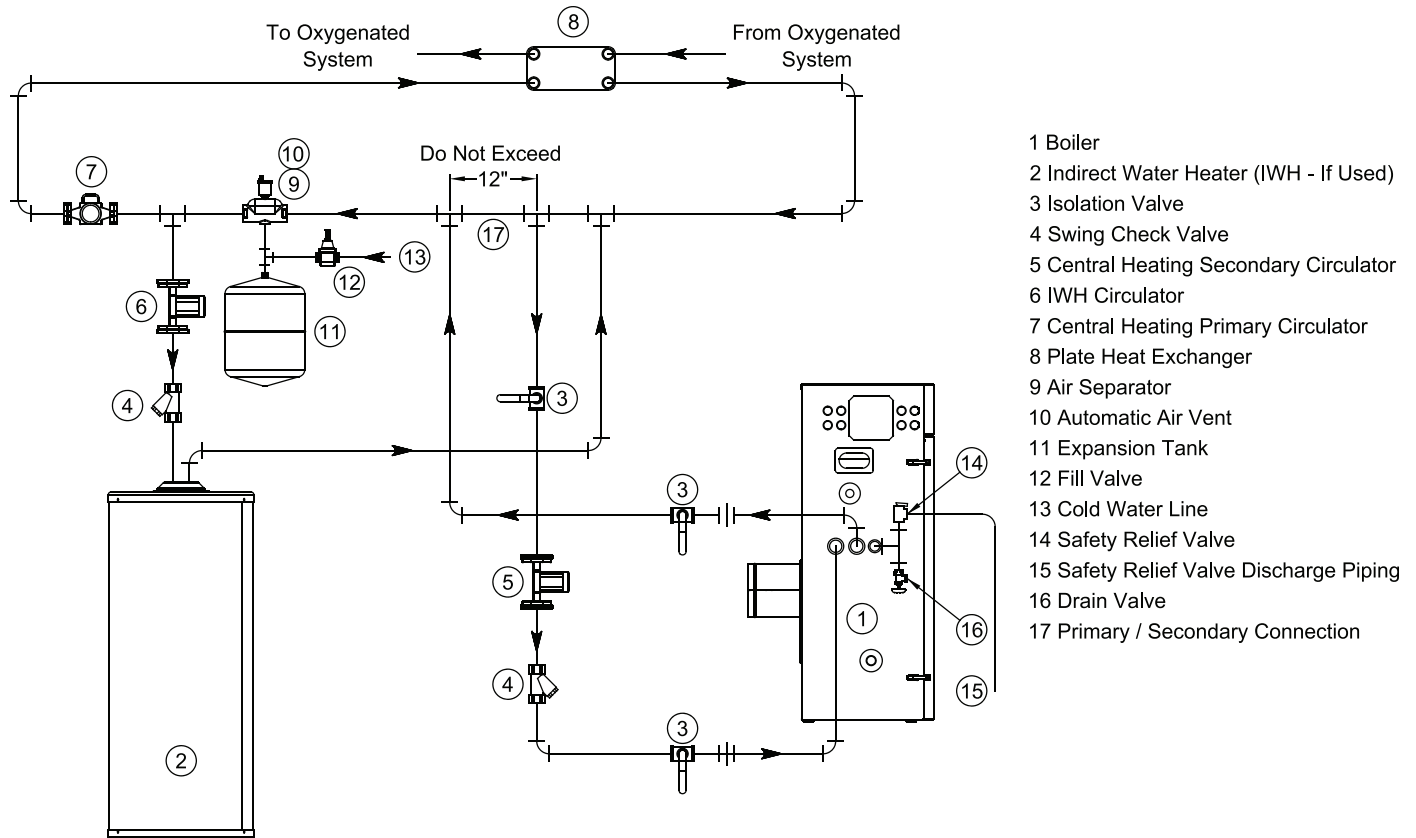

Figure 22B: Isolation of the Boiler From Oxygenated Water with A Plate Heat Exchanger (IWH Piped Off System Header)
E. Multiple Boiler Installation Water Piping - See Table 16 and Figures 22B 23A and 23B.